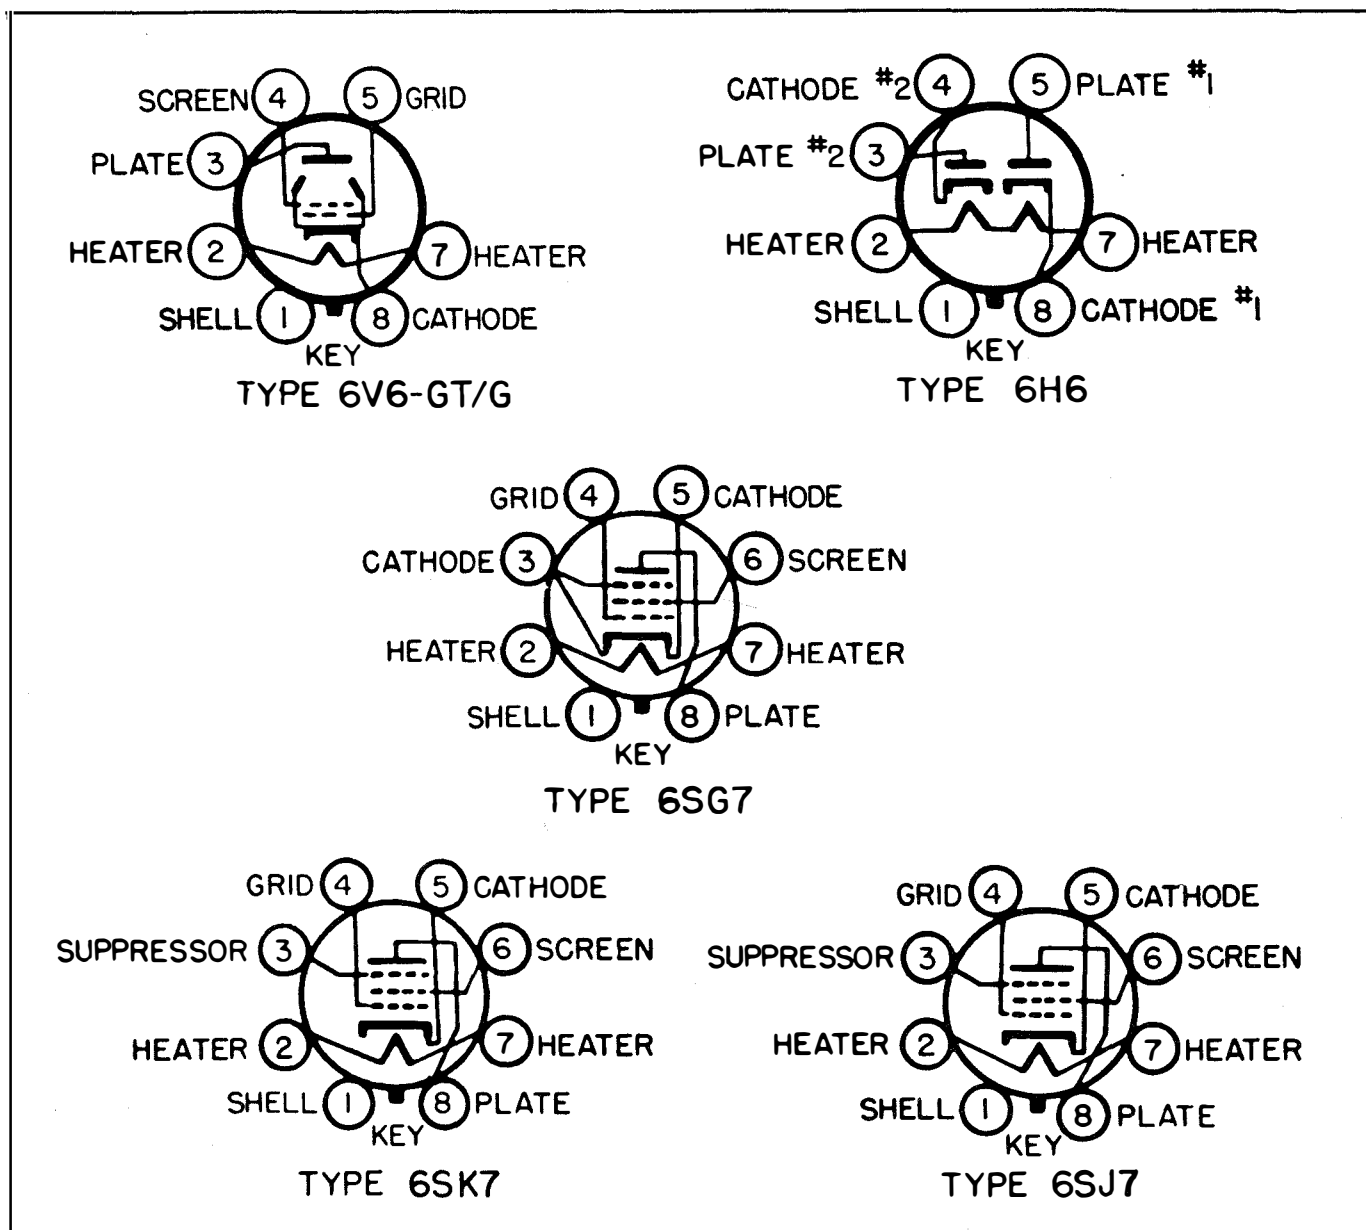

Figure 7-4 Radio Receiver, Tube Socket Diagram
(4) Touch the test prod to the following points, in the order given: pin No. 3 of V-511, Pin No. 5 of V-511, pin No. 4 of V-510, pin No. 4 of V-509, and pin No. 3 of V-506. (See Figures 7-4 and 7-21).
(5) If the output reading fails to increase when the test prod is moved from one point to the next point farther away from the output, there is some defect in the circuit between the two check points. Analyze and repair the defective circuit by the following method: